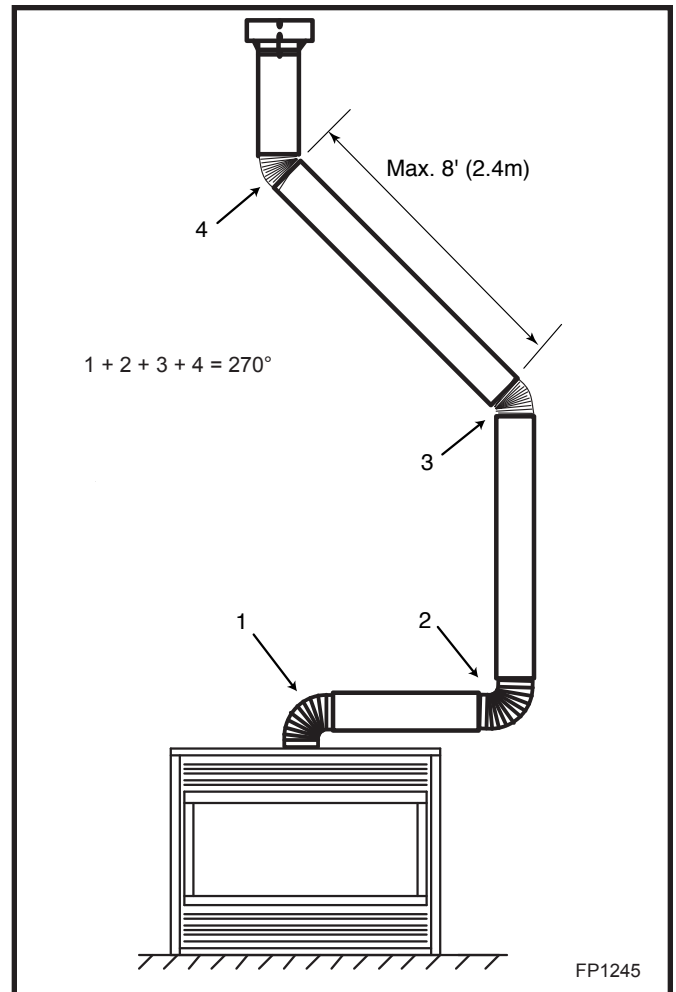

Fig. 31 Typical offset application.
- Two sets of 45° elbows offsets within these vertical installations. From 0 to a maximum of 8' (2.4 m) of vent pipe can be used between elbows. (Fig. 31)